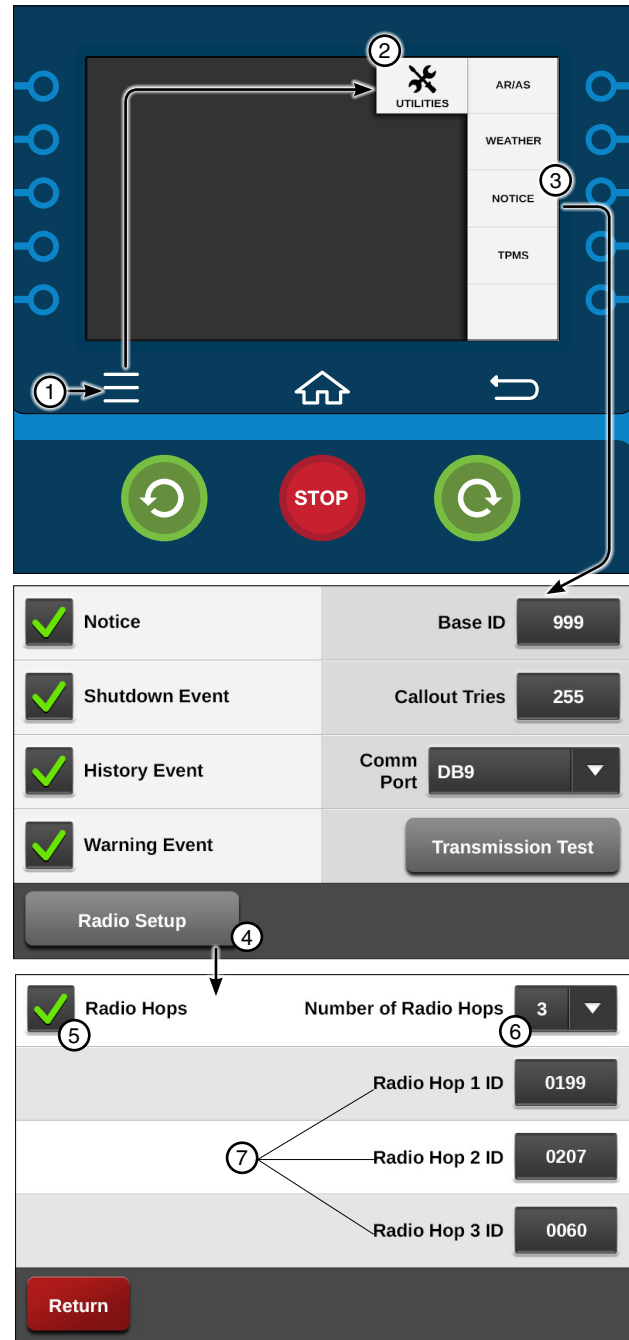

Figure 82-1 1. Menu 2. Utilities 3. Notice 4. Radio Setup 5. Radio Hops Checkbox 6. Number of Radio Hops 7. Radio Hop IDs
The Number of Radio Hops drop-down menu is used to setup the number of Radio Hops. Refer to Figure 82-1.
Use Radio Hop ID fields to setup the intermediate unit ID to be used by the control panel. Refer to Figure 82-1.
1. Push **Menu**, **Utilities**, **Notice**, and push the **Radio Setup** button to display the Radio Setup screen. Refer to Figure 82-1.